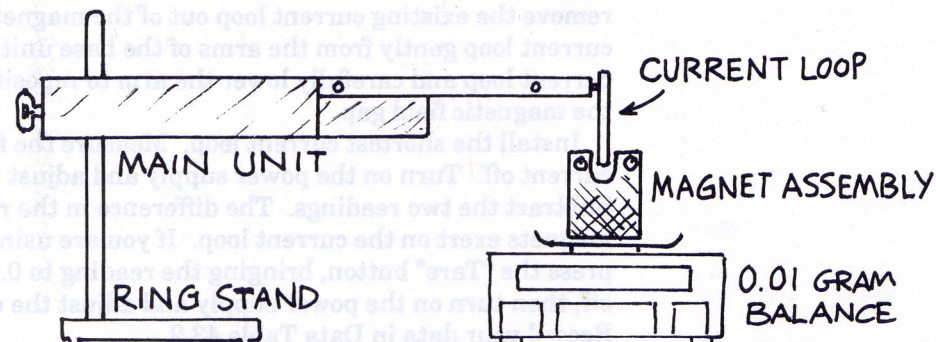

Figure 43.1
Step 1. Mount the main unit of the current balance on a ring stand with a rod of 3/8 inch diameter or smaller as shown in Figure 43.1. Select a cur-